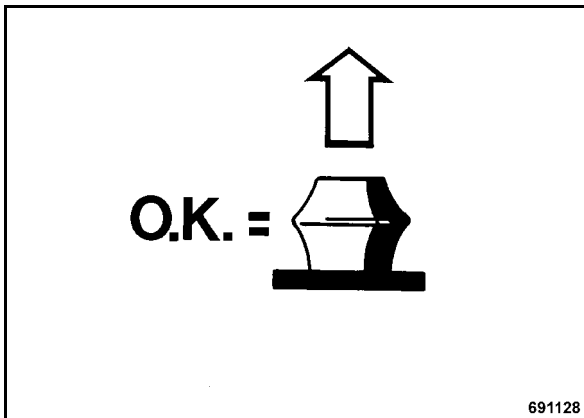

Fig. 82
- Check the air filter service indicator (Fig. 82).